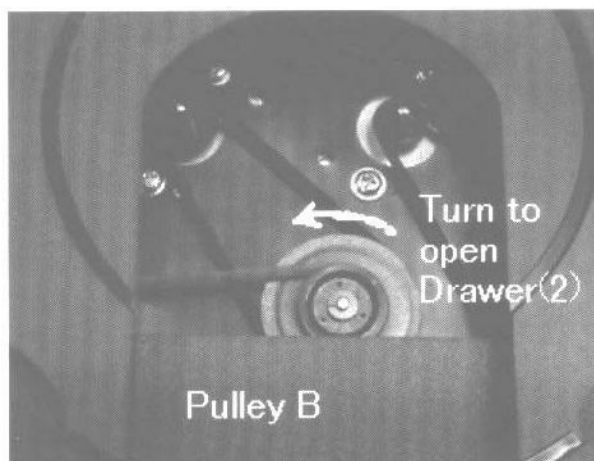
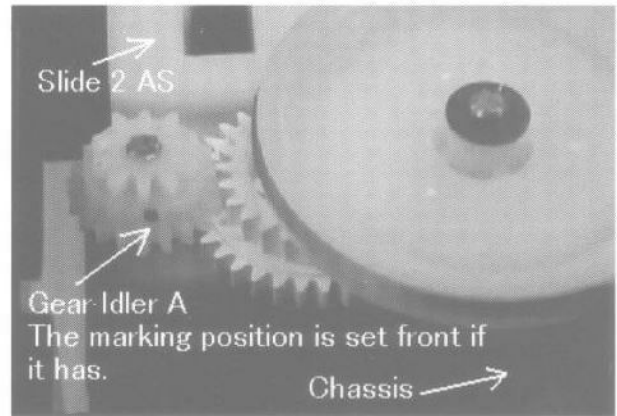
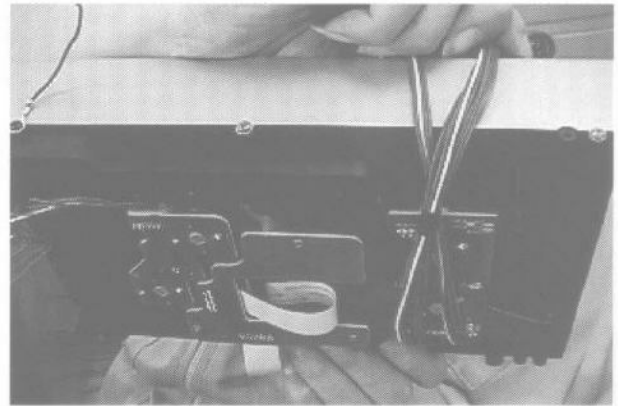

Fig. 3
Fig. 11
Fig. 12
- 1) Remove 6 SCREWS(115) from COVER(23).
- 2) Turn PULLEY B(32) anti-clockwise and pull DRAWER(2) block. The DRAWER block is easily pulled out. (See Fig.3)
10) When you assemble DRAWER block with CHASSIS, it is important that linear gears in CHASSIS gang well with GEAR IDLER A(39). While GEAR IDLER A isn't ganged well, turn PULLEY B(32) (Fig. 3) a bit and make them ganged. (Take care not to turn it much. GEAR IDLER A should be in  $\pm 45$  degrees from the center.) (See Fig. 11)
11) Push in two hooks at the both sides as they sound click. (You may fix the right side hooks first before you move Drawer block inside in item 9).
12) Put COVER(23) and mount six SCREWS(115).
13) This is a completed or removed condition. (See Fig. 12)